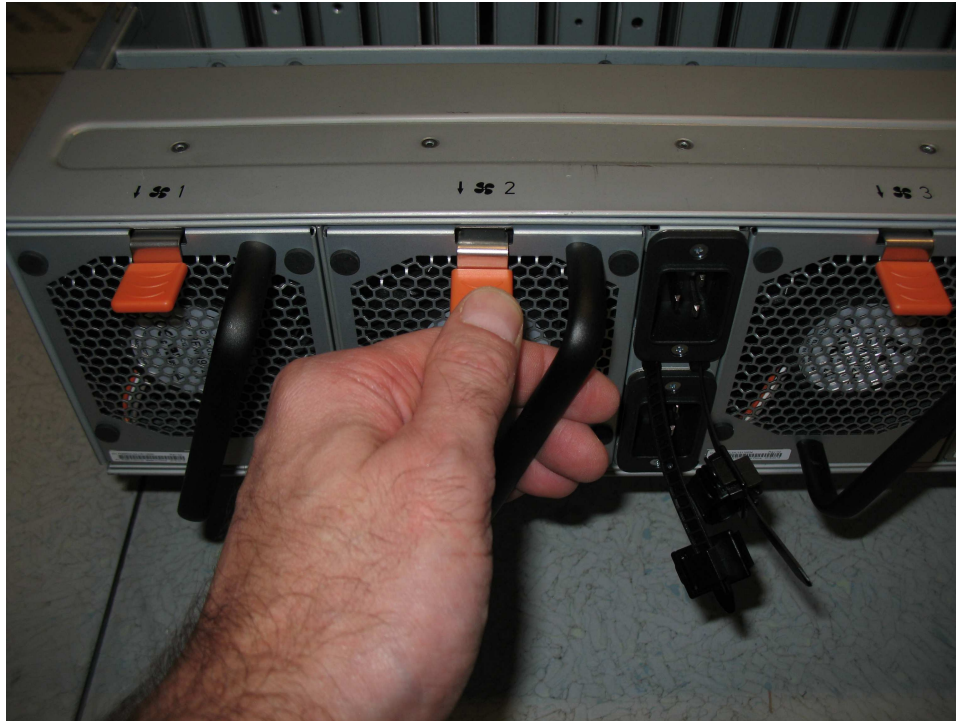

Figure 101. Fan module release tab
2. Press the release tab on the fan module, as Figure 101 on page 108 shows.